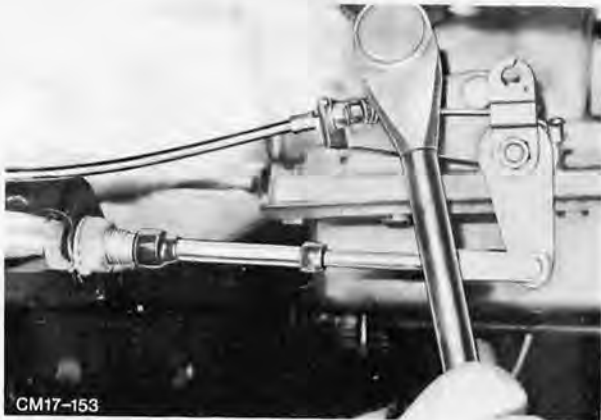

Fig. 64. Adjust brake band
3. With torque wrench, Tool 17-005, tighten adjustment screw until wrench releases, Fig. 64.